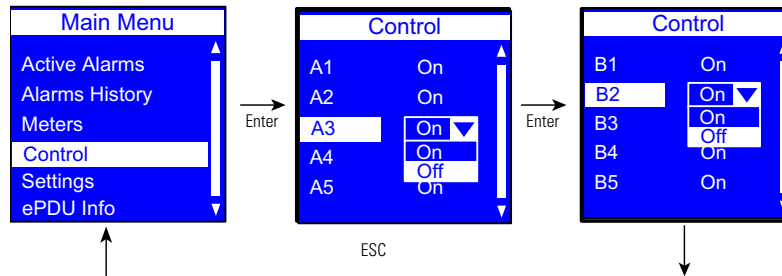

Figure 61. Example Control Submenu Display
For Switched (SW) and Managed (MA) ePDUs only. On the Main Menu, scroll up or down to highlight **Control**. Press **ENTER**. Scroll up or down to see a list of outlet group IDs. Select an outlet group. The On/Off drop down list displays. Select On or Off. The selected state of the outlet displays. Scroll up or down to see other lists of outlet group IDs (if available). Press **ESC** to return to the previous menu (see Figure 61).